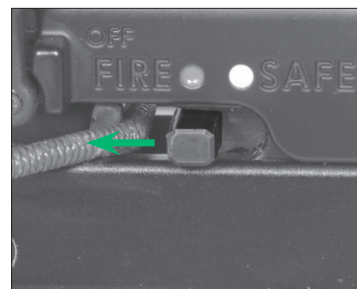

FIGURE 14
- 2c Slide the safety switch from the ON SAFE position to the FIRE position. (Fig. 14)